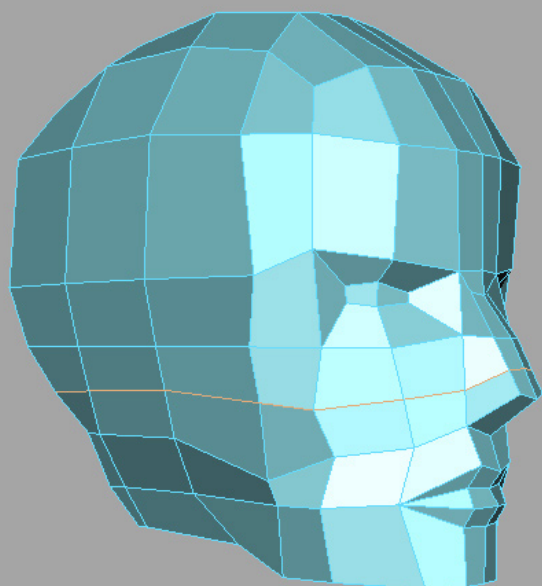

Fig 07
7. Cut another series of edges around the circumference on the entire mesh with the Split Poly Tool. Shape it into the mesh once it's been created. Now that we've got a start on all the basic features, really pay attention to the form and shape of the head. This is a low poly character, so you want every polygon pulling it's weight. Try to get a good solid dynamic shape to the head. It's also never a bad idea to check out references of how the skull and muscles of the head form either. (Fig 07)